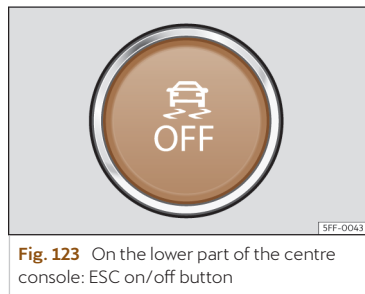

Fig. 123 On the lower part of the centre console: ESC on/off button
- In Sport mode, the ESC can be switched off and on by briefly pressing the  button on the centre console >>> **Fig. 123**.
- The ESC can be switched on and off by briefly pressing the  button on the centre console >>> **Fig. 123**.